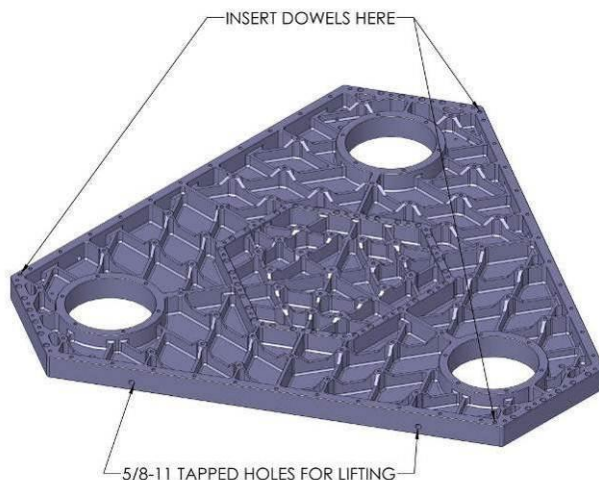
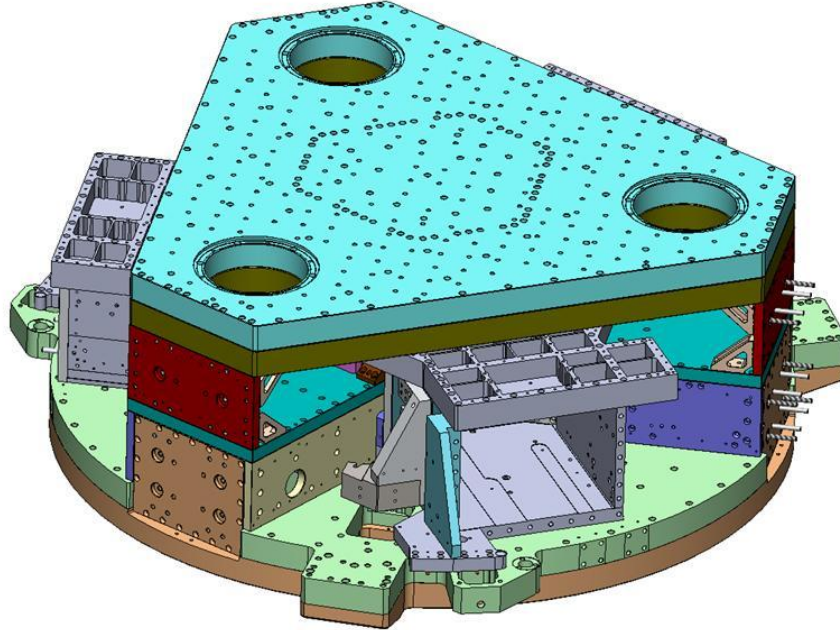

Figure 84: Prep Work for D0901518 Keel Plate Down-Facing
Figure 90: Assembly with D0901518 & D0901519 Keel Plates on
(3) 1/2" x 1.25" dowel pins
- Press (3) 1/2" x 1.25" dowel pins into D0901518 as shown on Figure 84. Pins should sit about 0.5" above the surface.
- Lift D0901518 Keel Plate Down-Facing using (3) of the (6) 5/8-11 Tapped Lifting holes shown on Figure 84.
- Position D0901519 (pocketed surface facing down) over D0901518 Keel Plate Down-Facing as shown on Figure 90. D0901519 Keel Plate Up-Facing is located with (3) 1/2" x 1.25" dowel pins already pressed in (3) D0901518 Keel Plate Down-Facing (see Figure 84).